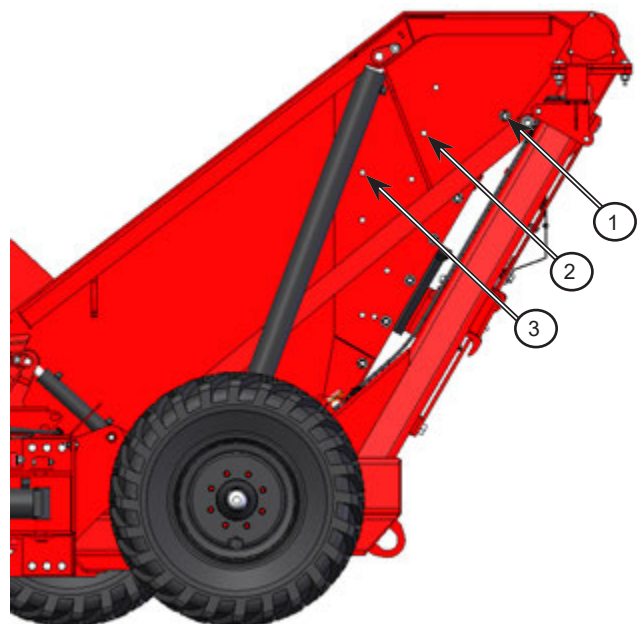

Figure 4.29: Adjust the dump height panel
4. Adjust the dump height panel so that it lines up with the row of holes for the desired dump height, as per *Figure 4.29*.